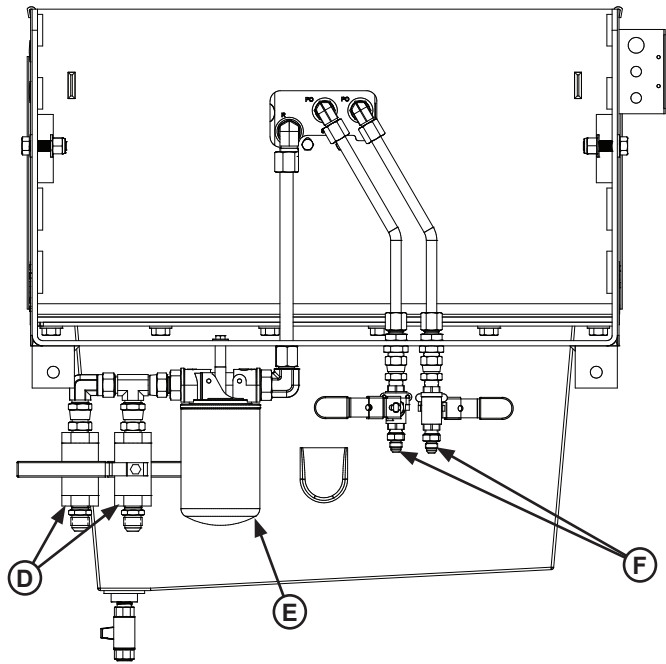

Figure 22 (rear view)
- Change fluid filter (E). See Figure 22.